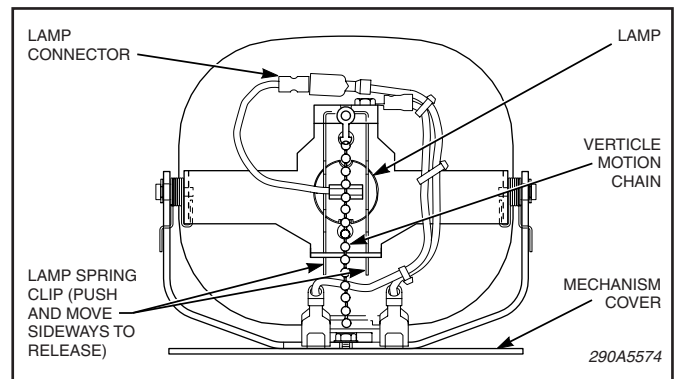

Figure 7.
B. Lamp Replacement (see figure 7).